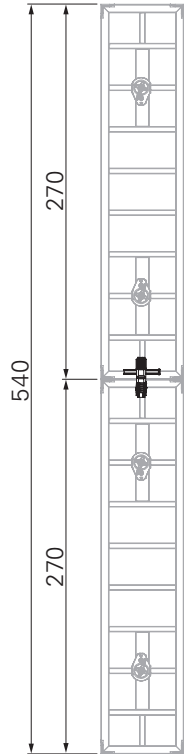
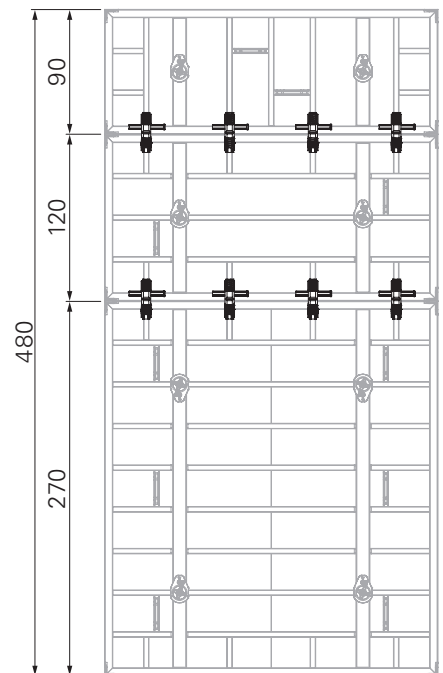

Fig. B9.01a
Fig. B9.01d
– Examples: (Fig. B9.01a – Fig. B9.01d)
- If a Panel MX-2 H = 30 cm is added horizontally, the tie can be dispensed with for this panel. The unused tie point must be sealed with a Plug MXM15 $\text{\O}18.3\text{mm}$ (71).